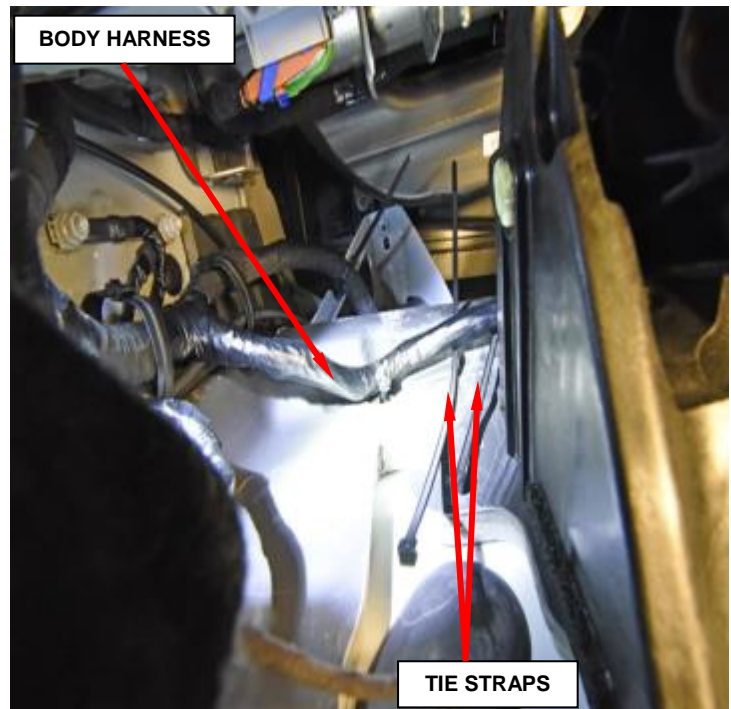

Figure 9 – Position Tie Straps
7. Position two tie straps around body harness on front dash panel as shown (Figure 9).